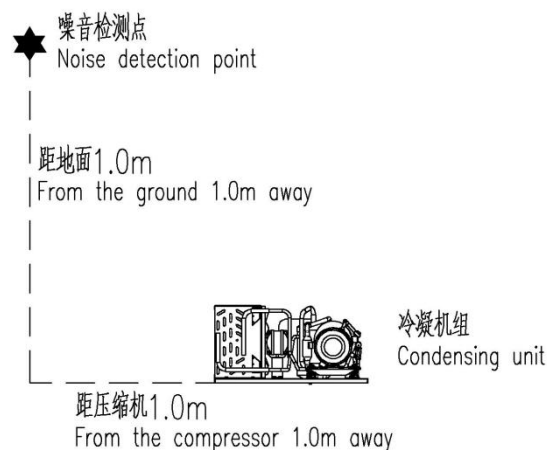

图1 Figure 1
①机组应用于冷冻工况时，建议增加制冷电磁阀，使用负压停机方案；应用于冷藏工况时，建议增加制冷电磁阀；
②当机组加注制冷剂超出最大加注量时，需与我司确认补加冷冻油质量；
③当环境温度低于 10°C 时，需要增加冷凝温度控制；
④噪音检测点位置如图 1 所示。
①When the unit is used in freezing condition, it is recommended to add refrigeration solenoid valve and use negative pressure shutdown scheme; When used in refrigeration conditions, it is recommended to add refrigeration solenoid valve;
②When the unit filling refrigerant exceeds the maximum filling amount, the quality of filling chilled oil should be confirmed with our company.
③When the ambient temperature is lower than 10°C, the condensation temperature control needs to be added;
④The position of noise detection point is shown in Figure 1.